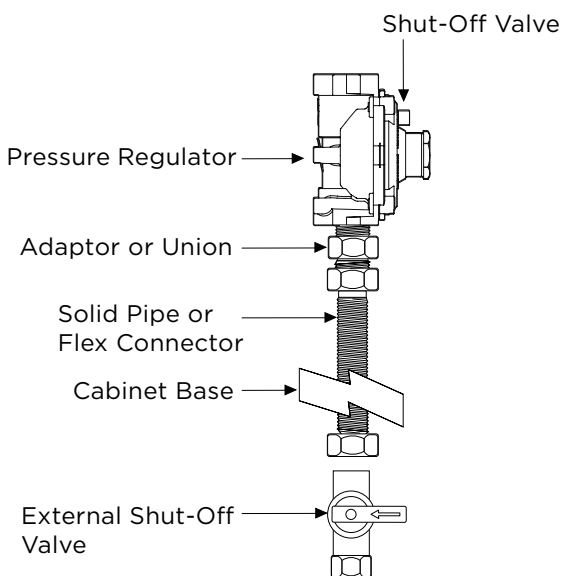
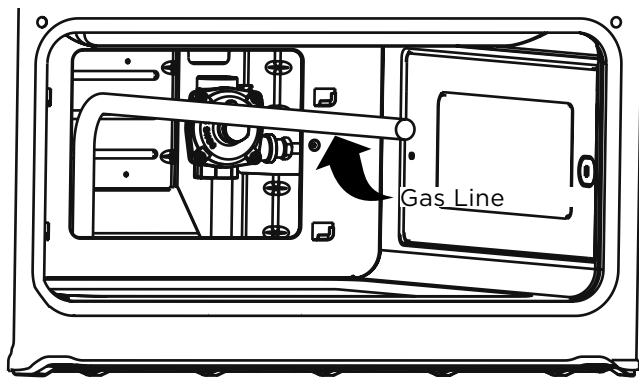

Figure 8
Figure 9
4. Connection to Gas (see figure 8)
NOTE: If the burner does not light then check the regulator (figure 9 b & c) and manual valve (figure 8) are open.